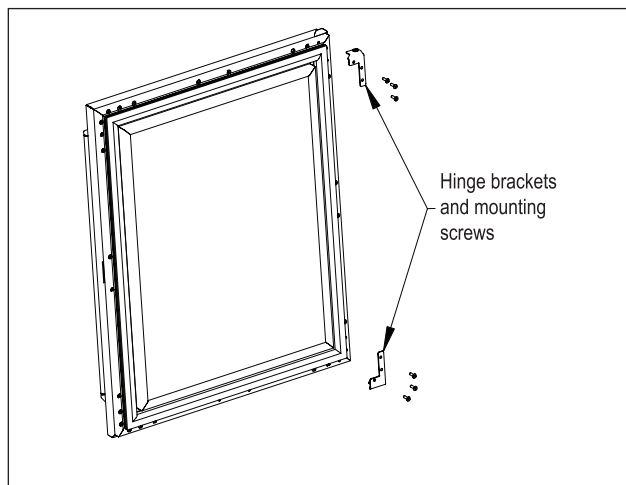

Figure 6: Door Brackets
6. Remove the top and bottom hinge brackets from the door (Figure 6). Retain the screws for later use.